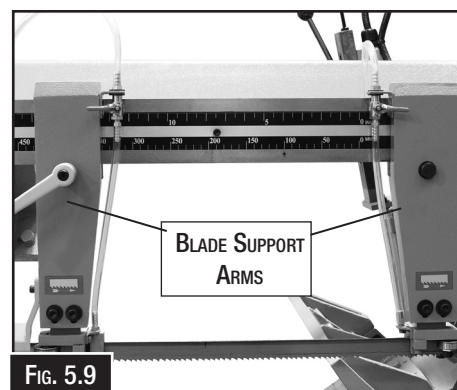

FIG. 5.9
3. Loosen and slide both blade support guide arms toward center of headstock. (Fig. 5.9)